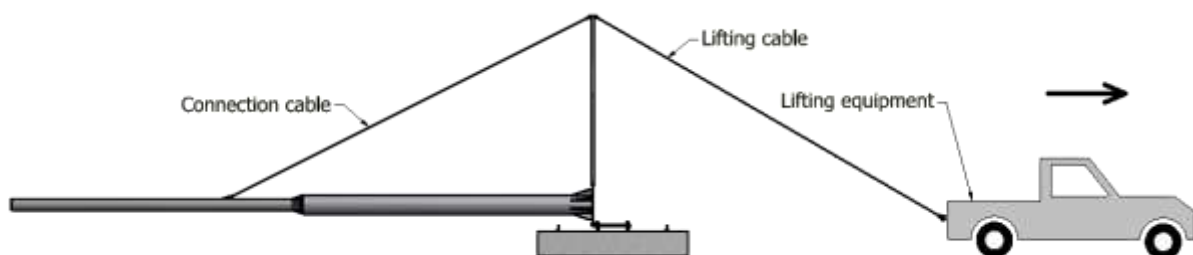

Figure 11 – Connecting the lifting equipment
2. Take the cable end with the hook and connect it to a lifting equipment. A tractor or a car with a winch can be used in order to achieve at least 3000 kg of pulling force (see Figure 11). If you are using a car with a winch, make sure that the car has all the brakes applied at all times and is anchored to a strong point. The winch on the car must have a functional brake.